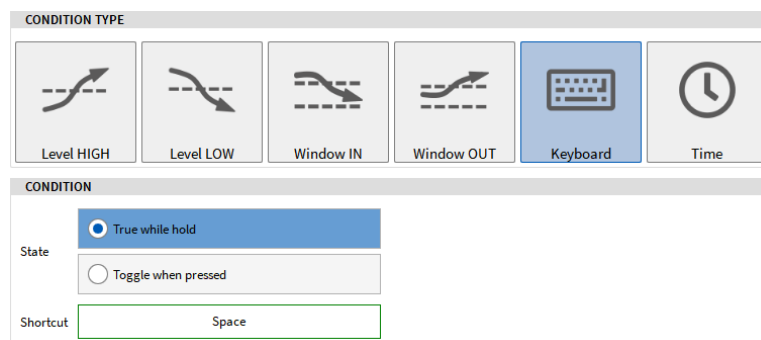

Fig. 9.38: Space Key Condition type
- Select *Keyboard Condition Type* and *True while hold* as *Condition State* with the *Space key* as *Shortcut* (see Fig. 9.38):